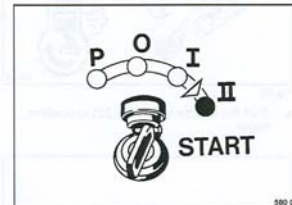

Fig. 25
- Turn the ignition key (Fig. 25) to position "II", the starter will crank the engine.